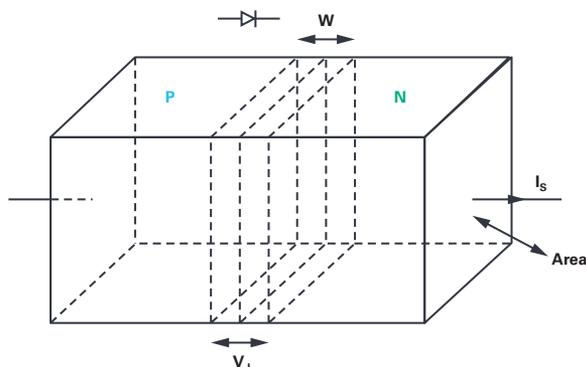

Figure 1. PN junction depletion region.
Increasing the reverse bias voltage, V_j , across a PN junction leads to the redistribution of charge away from the interface, leaving a depleted region or layer, W , in Figure 1. This depleted layer acts like the insulator between the two conducting plates of a capacitor. The thickness of this layer, W , is a function of the applied electric field and the doping concentration. The PN junction capacitance is divided into two components, the barrier capacitance and the diffusion capacitance. Under the conditions of reverse-bias, free carrier injection does not occur; therefore, the diffusion capacitance is equal to zero. The barrier capacitance is the dominant source of capacitance for reverse and small positive-bias voltages less than the diode turn on voltage (0.6 V for silicon). In practice, the barrier capacitance can be as small as a fraction of a picofarad to hundreds of picofarads depending on the area of the junction and the doping concentration. The dependence of the junction capacitance to the applied bias voltage called the capacitance-voltage (CV) characteristic of the junction. In this lab, you will measure and plot this characteristic for various PN junctions (diodes).